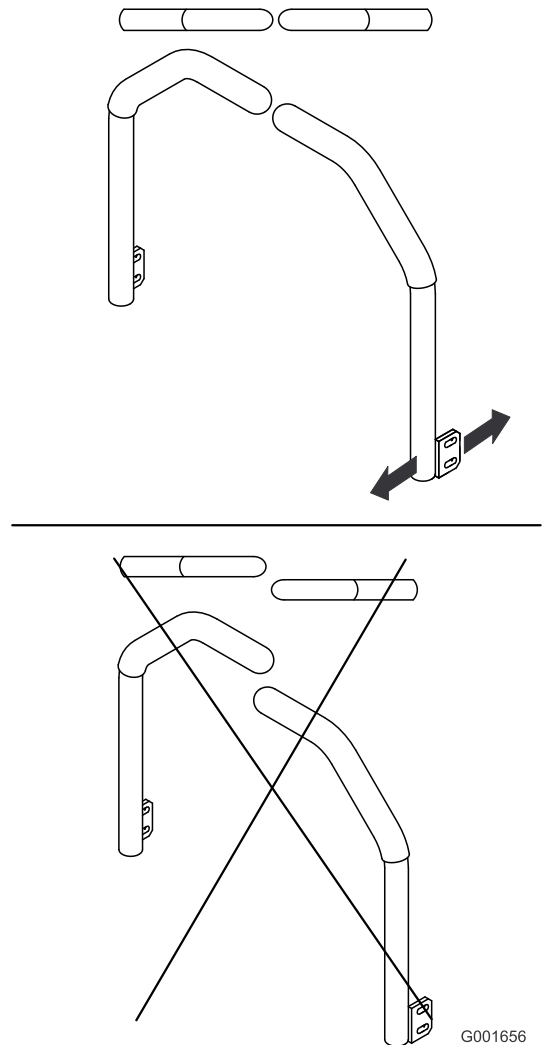

Figure 90
5. Adjust the control levers so that they line up and tighten the bolts, securing the levers to the posts (Figure 90).